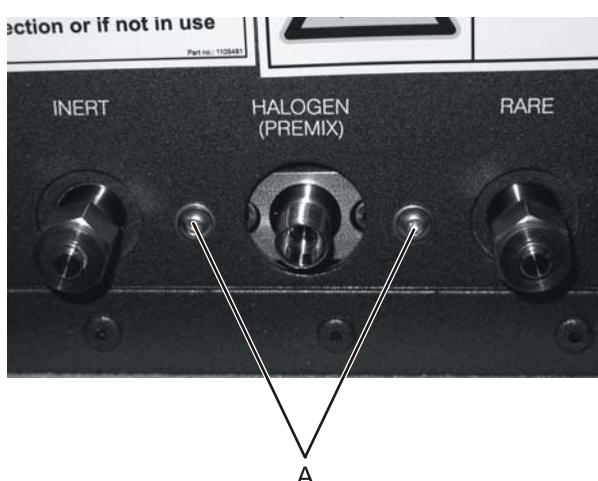

Figure 142: Preparing to fit halogen protection cover
5. Use the 2.5 mm allen key to remove the two screws on each side of the halogen connection (see Figure 142, A). This is necessary to enable the halogen protection cover to be fitted.